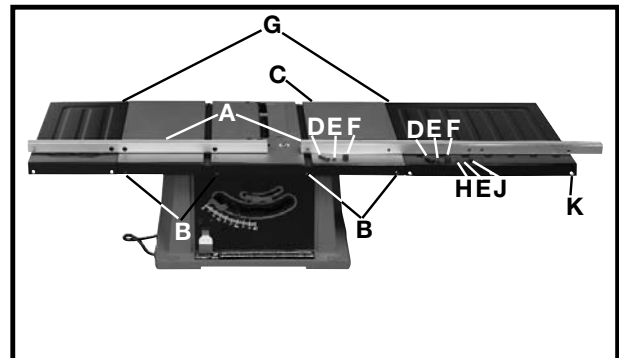

Fig. 24
1. Holding the guide rail with the larger holes facing you, loosely fasten guide rails (A) Fig. 24, to the four threaded holes (B) in saw table (C) using two 1/4-20 x 1-1/4 in. long screws (D), 1/4 in. lockwashers (E), and spacers (F).
IMPORTANT: Spacers (F) Fig. 24, are positioned between guide rails (A) and saw table (C).
2. Fasten guide rails (A) Fig. 24, to extension wings (G) through hole (K) using the 1/4-20 x 1-1/4 in. long screw (D), 1/4 in. lockwasher (E), spacer (F), 1/4 in. flat washer (H), 1/4 in. lockwasher (E), and 1/4-20 hex nut (J). Then tighten all guide rail mounting hardware.
IMPORTANT: Spacer (F) Fig. 24, is positioned between guide rails (A) and extension wings (G).